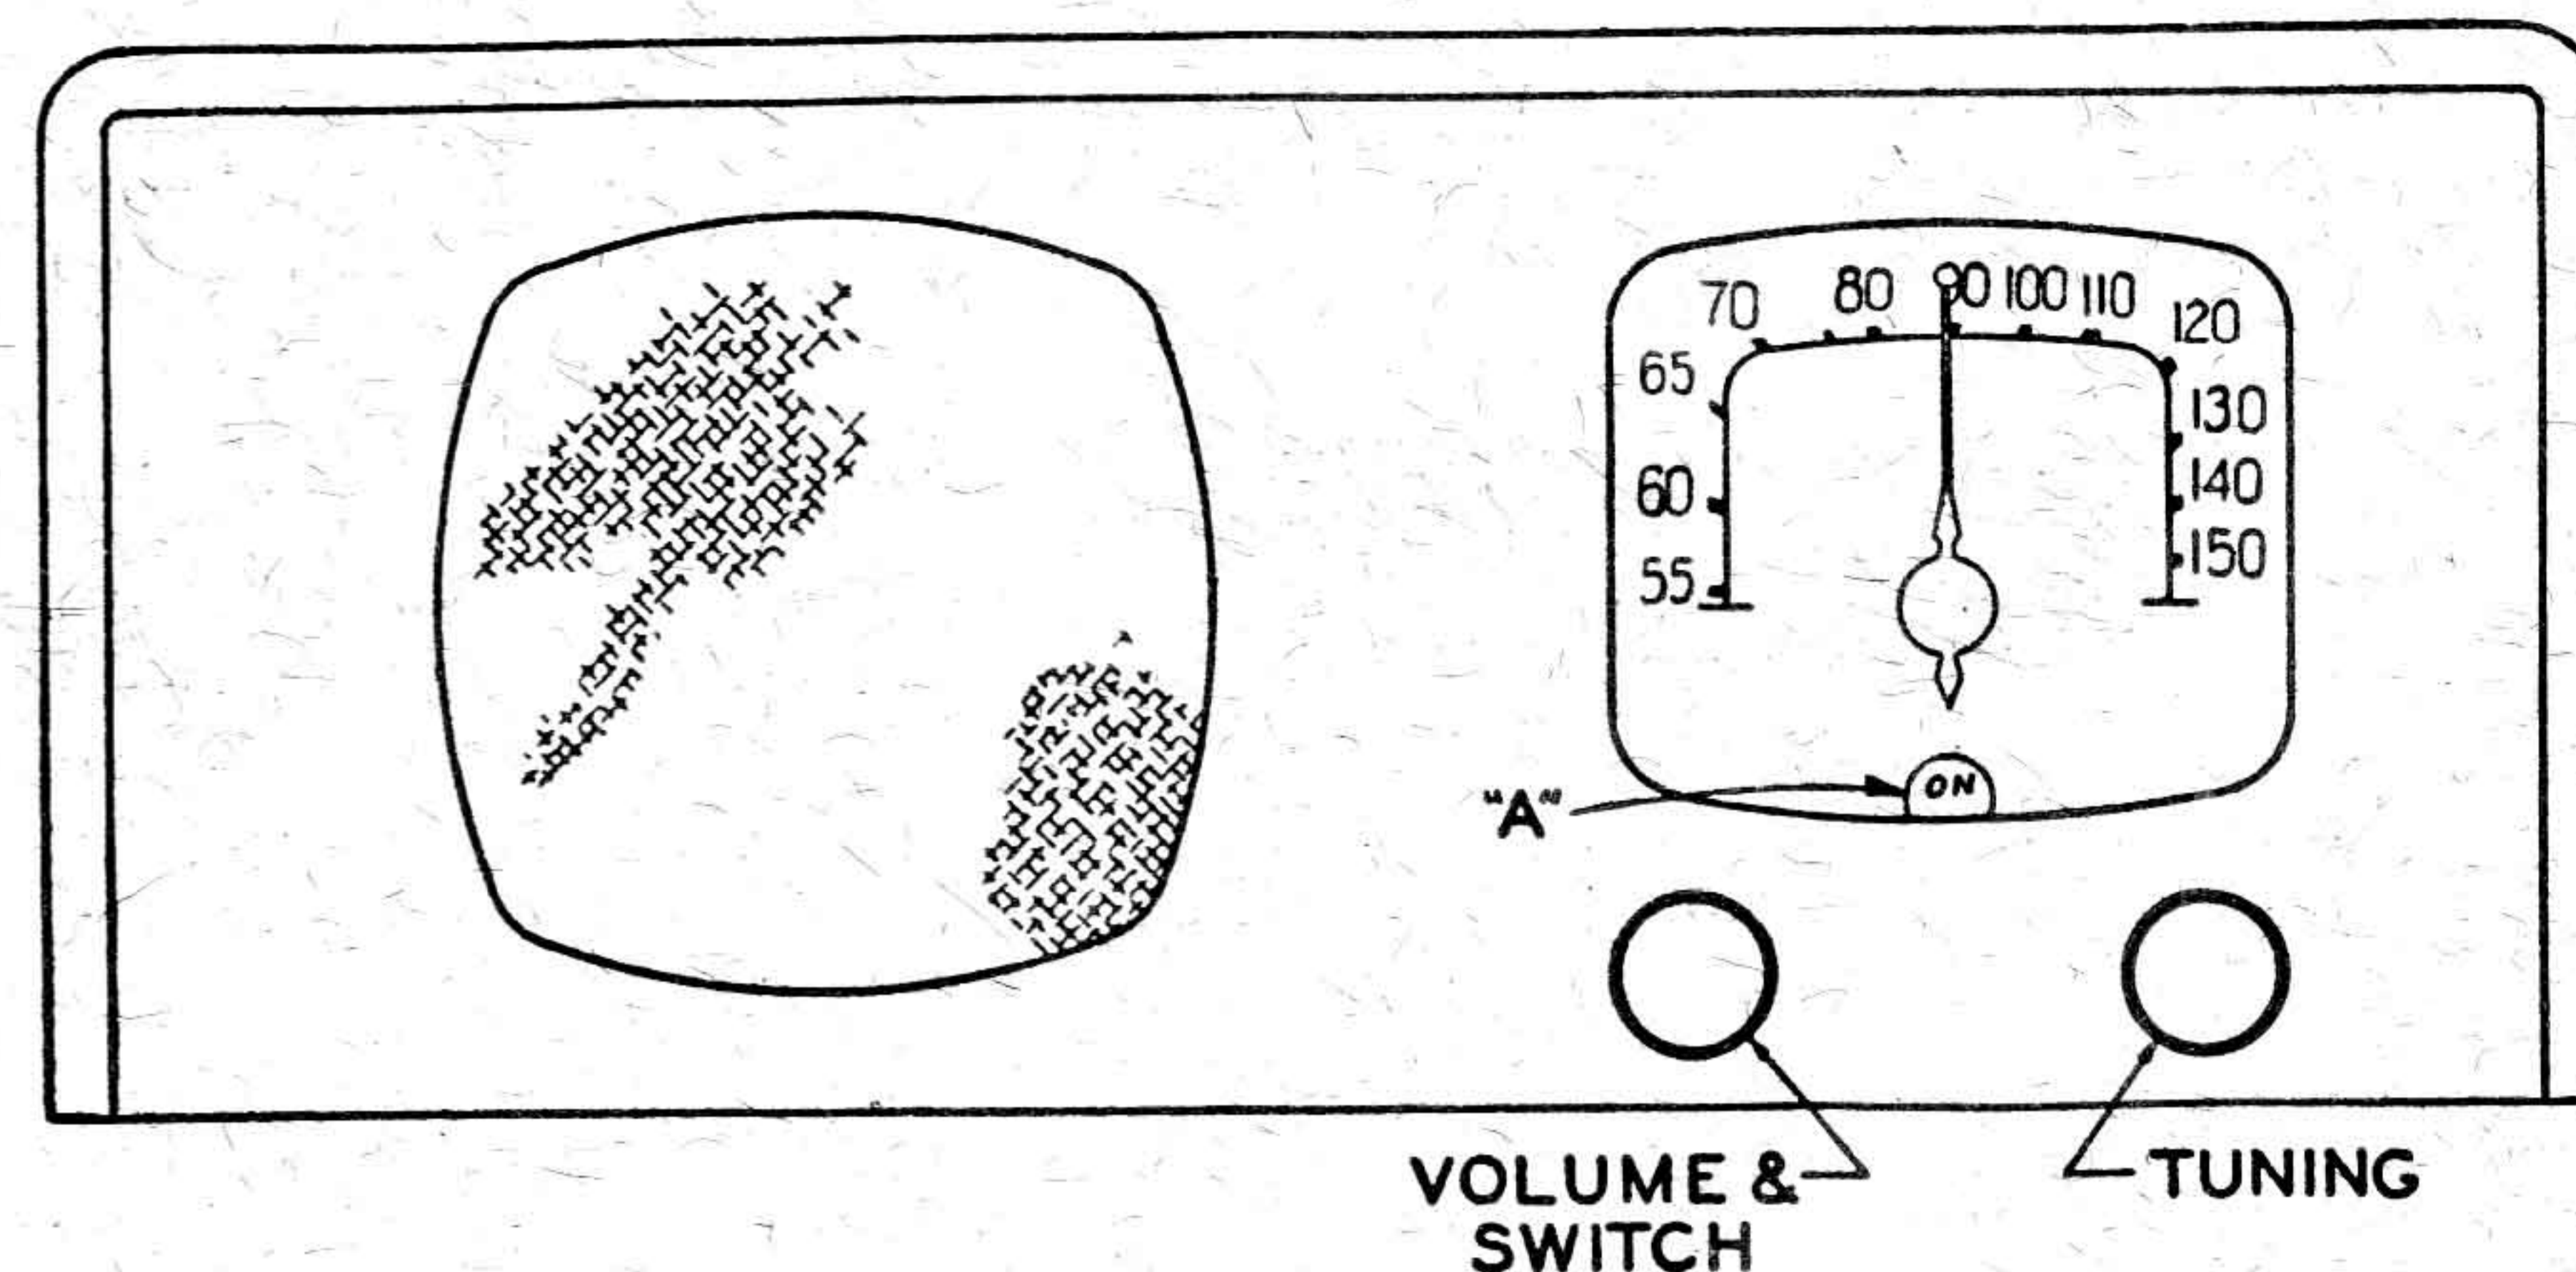

Fig. 2
**OPERATION:** Opening the hinged front cover exposes the dial, controls and speaker, as shown in Fig. 2.
Tuning is accomplished by the right hand tuning control knob shown in Fig. 2. This knob should be turned slowly to avoid passing over the weaker or more distant stations. Under normal conditions the **WAVEMAGNET** may be left in position in the receiver case. Since the **WAVEMAGNET** is slightly directional it may be necessary to rotate the receiver to another position for best reception. The same procedure is followed in reducing electrical interference.